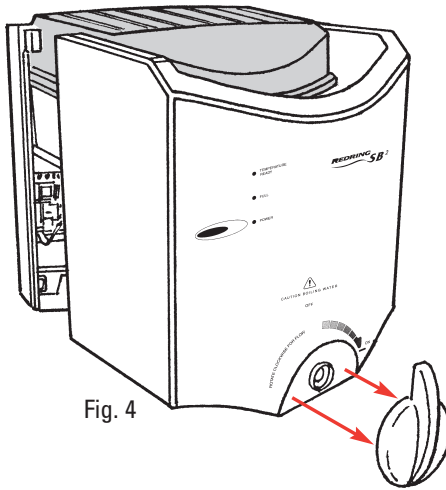

Fig. 4
- Support the front cover and remove the flow knob (Fig. 4).